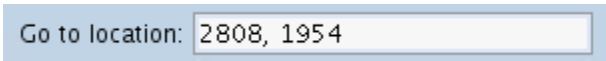

Figure 30: The 'Go to location' field, for the Image area of the Wells tab.
- **Go to location:** opens a data entry field just above the image area allowing a user to specify a location on the image (Figure 30), for immediate navigation when a user presses the 'Enter' key on the keyboard. Valid entries and their meanings are as follows: